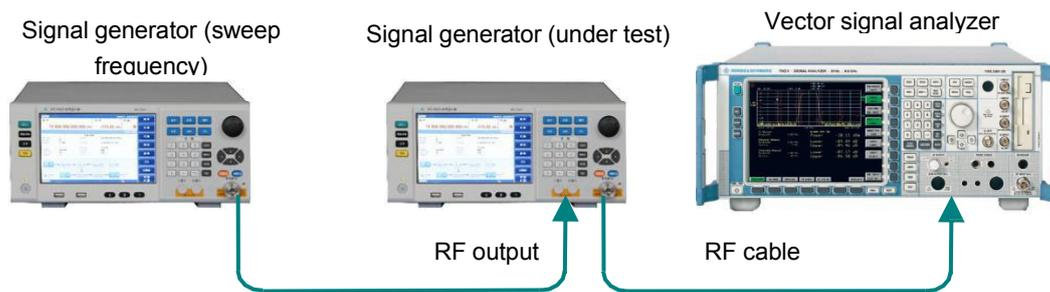

Figure 7.9 Test on external modulation frequency response
1. Connect equipment as shown in Figure 7.9, start up the instrument, and warm it up for at least 30 min.